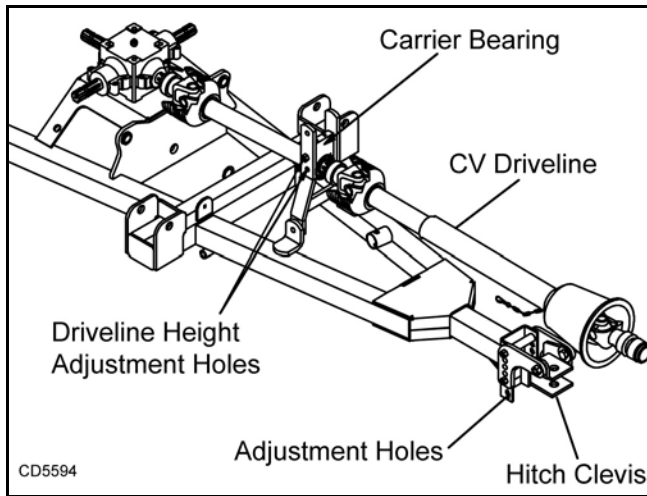

Figure 2. Level Trailer Frame
3. Level the trailer frame by adjusting the hitch. (See Figure 2.)